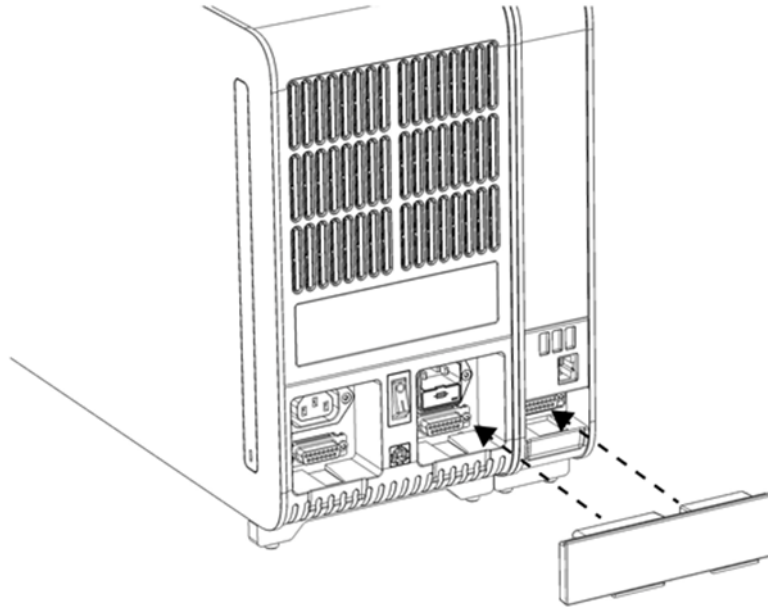

Figure 8. Connecting the Analytical/Operational Module Bridge.
5. Connect the Analytical/Operational Module Bridge at the back of the QIAstat-Dx Analyzer 2.0 to link the Operational and Analytical Modules together (Figure 8).